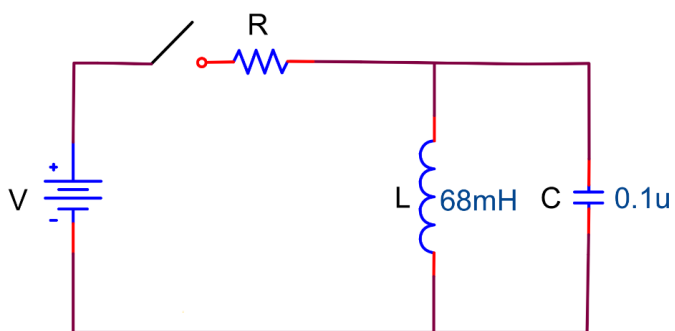

Figure 14.3
2. For the circuit in Figure 14.3, write a differential equation for $v(t)$ (in terms of R , L , and C). What range of values for R correspond to over-, under-, and critically damped cases?